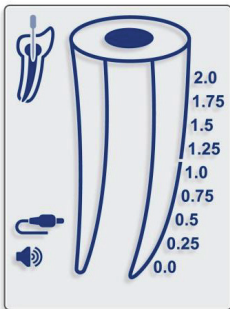

Fig. 4
- 7.4.7 Before connecting the measurement cable with attached lip clip and file clip to the patient, plug measurement cable into the device receptacle and make sure that the cable icon appears on the display (Fig. 4).